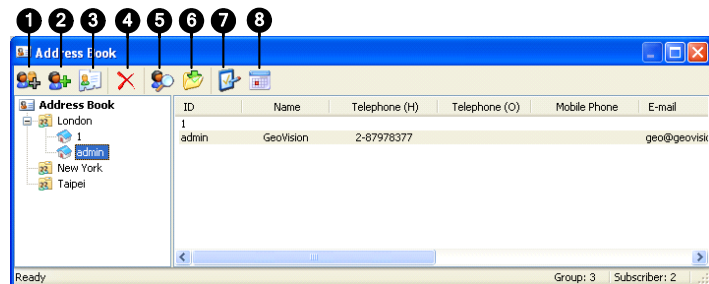

Figure 1-2
1. Click the **Add A Group** button (No. 1, Figure 1-2) to create a group.
2. Click the **Add A Subscriber** button (No. 2, Figure 1-2). This dialog box appears.
7. The options in the dialog box are discussed later. You may accept the default settings here, and edit them later by clicking the **Subscriber Settings** button (No. 7, Figure 1-2) on the toolbar. After you click **OK**, the subscriber account will be created.